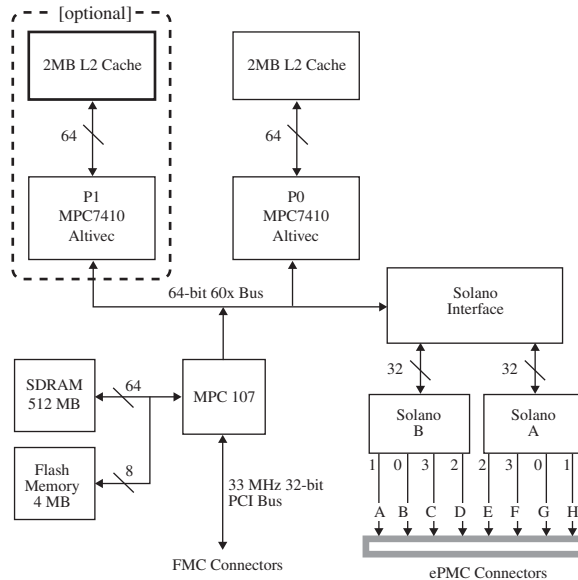

Figure 3-37a: PowerPC board block diagram ^[3-13]
- [c] Given the block diagrams in Figures 3-37a and b, and data sheet information on the accompanying CD under Chapter 3, files “ePMC-PPC” and “sbcARM7”, identify where the major elements in this diagram would fall relative to the von Neumann model.